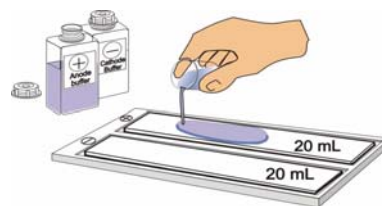

Fig. 3
8. Apply the anode buffer (20 mL) of to an electrode wick in a PaperPool (fig. 3; **gelcompany**; cat # 1003-03). Similarly, apply the cathode buffer (20 mL) to a separate wick.